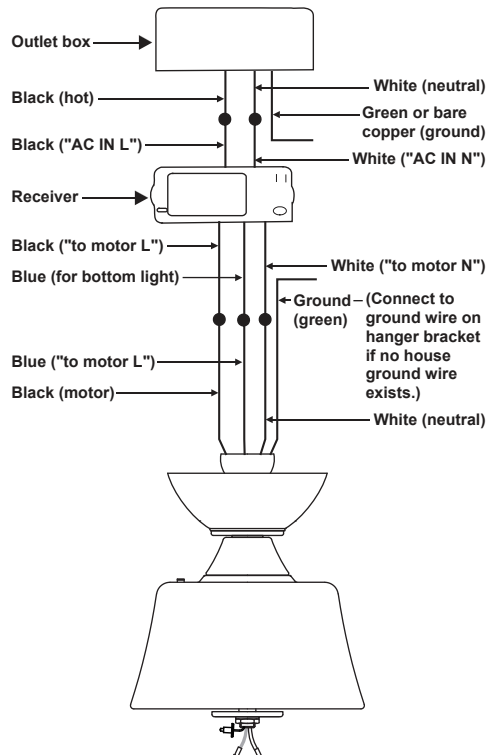

Figure 10
Step 2. (Fig. 10) Motor to Receiver Electrical Connections: Connect the Black wire from the fan to Black wire marked "TO MOTOR L". Connect the White wire from the fan to the White wire marked "TO MOTOR N" from the receiver. Connect the Blue wire from the fan to the Blue wire marked "For bottom Light" from the receiver. Secure wire connections with the plastic wire nuts provided.
Step 3. (Fig. 10) Receiver to House Supply Wires Electrical Connections: Connect the black (hot) wire from the ceiling to the black wire marked "AC in L" from the receiver. Connect the white (neutral) wire from the ceiling to the white wire marked "AC in N" from the Receiver. Secure the wire connections with the plastic wire nuts provided.
Step 4. (Figure 10) If your outlet box has a ground wire (green or bare copper) connect it to the fan ground wires; otherwise connect the hanging bracket ground wire to the mounting bracket. Secure the wire connection with a plastic nut provided. After connecting the wires, spread them apart so that the green and white wires are on one side of the outlet box and black and blue wires are on the other side. Carefully tuck the wire connections up into the outlet box.